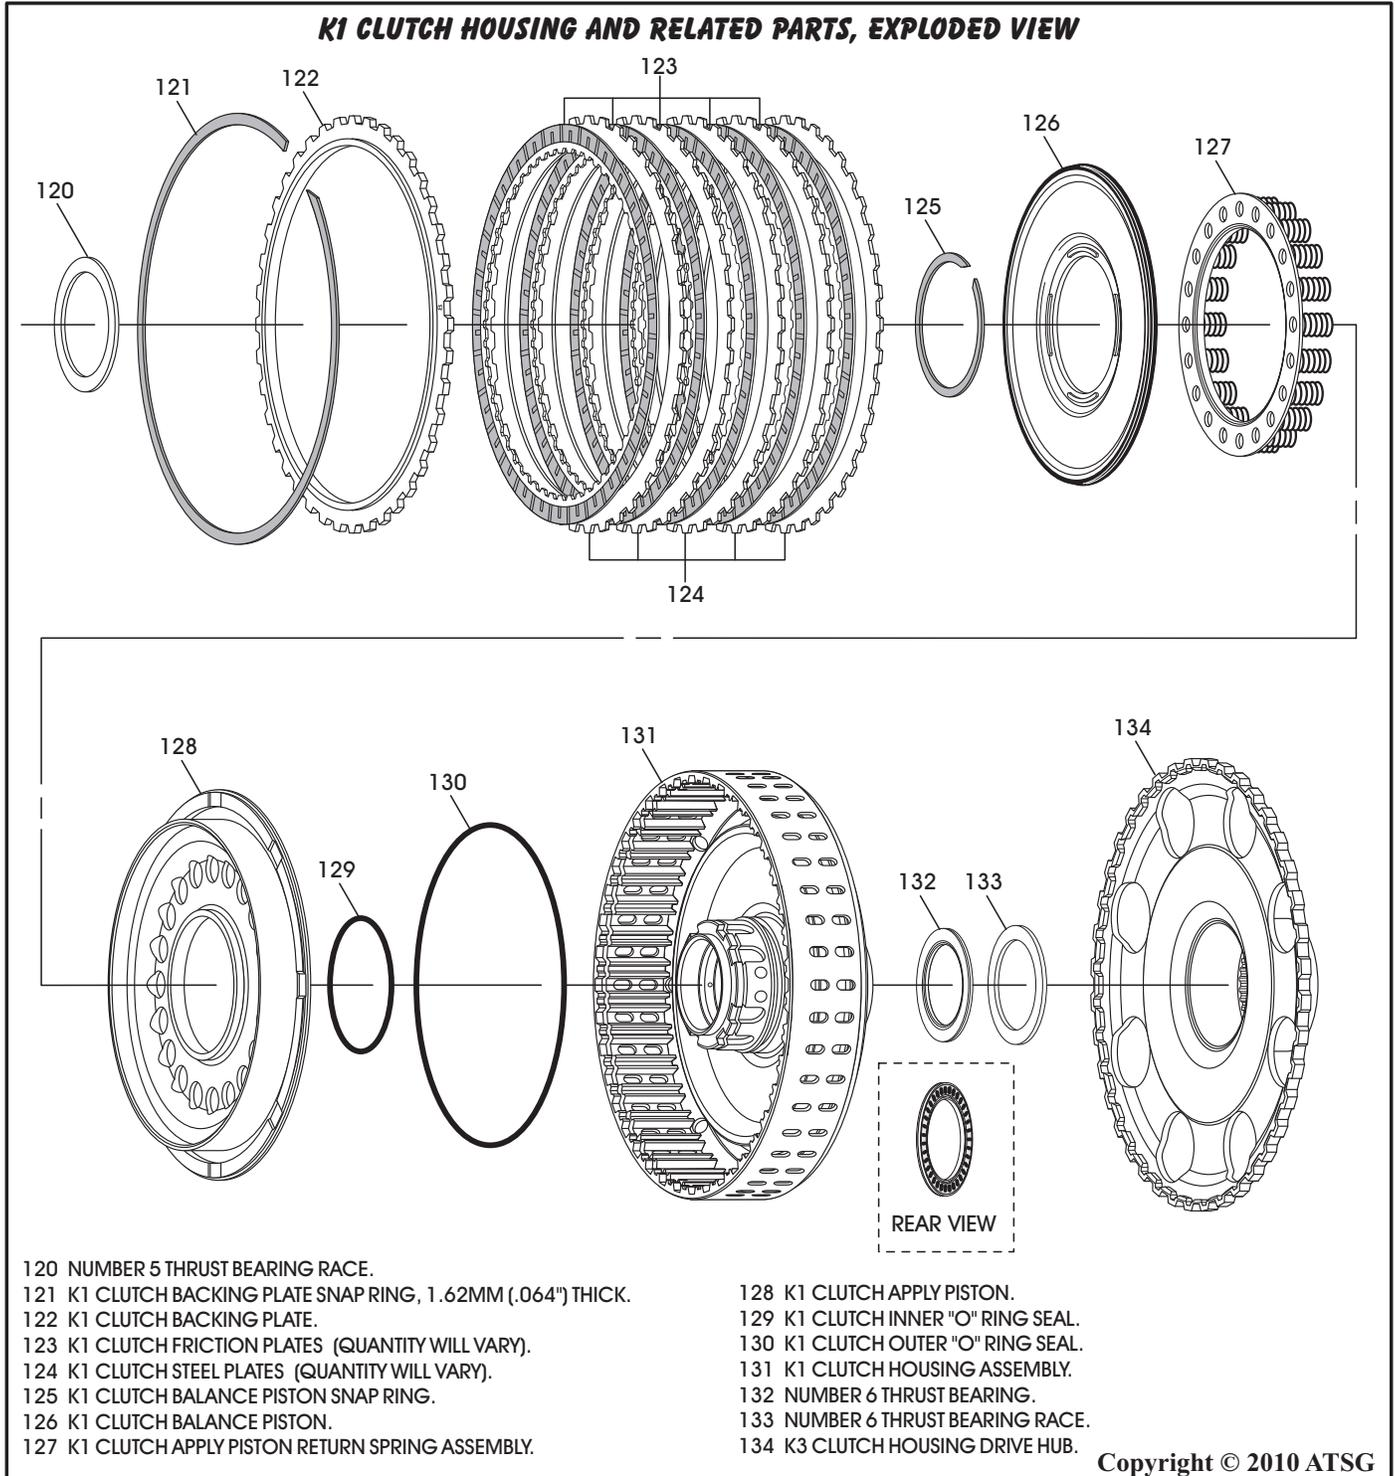

Figure 111
1. Disassemble the K1 clutch housing assembly using Figure 111 as a guide.